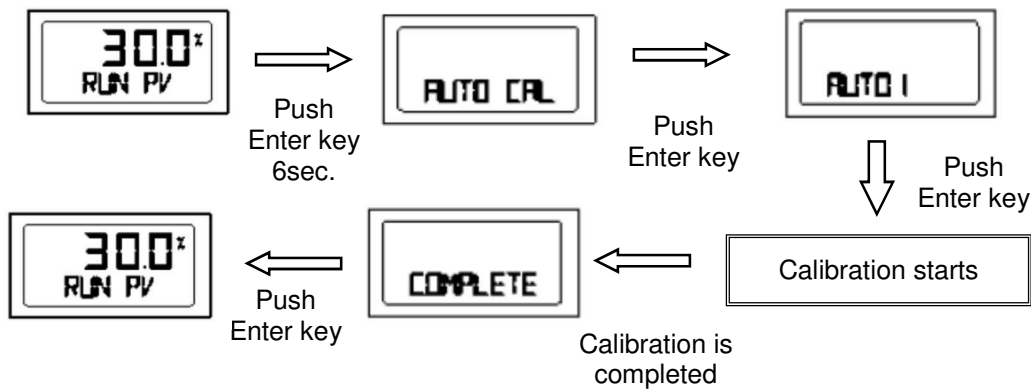

Fig. 13
④Auto-calibration is completed when display shows standard indication as Fig.13. Mount cover on the positioner and fix by tightening screw. Please put cover as display can be shown.